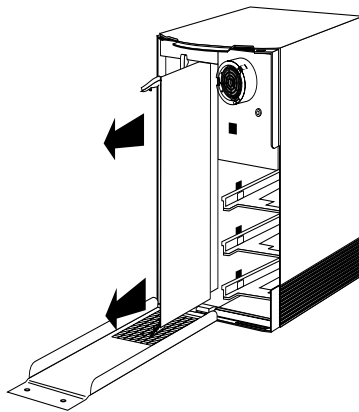

Figure 6-16 Removing the Graphics Board From the Indigo Chassis
- Pull the levers towards you to release the board, as shown in Figure 6-16. The board slides out of the chassis as you pull the levers.